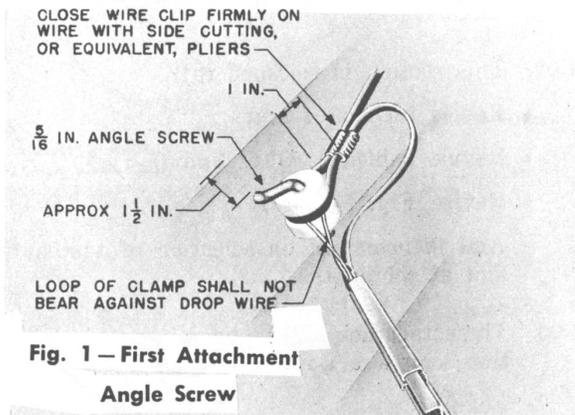

Fig. 1 — First Attachment
3. TYPICAL FIRST ATTACHMENTS TO BUILDINGS AND STEEL STRUCTURES (Fig. 1 through 9)